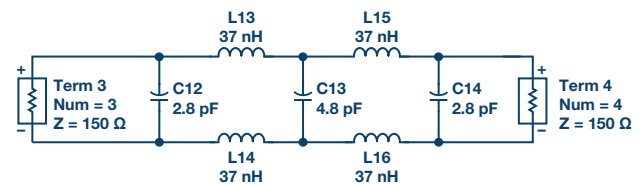

Figure 17. Differential low-pass filter with ideal components.
2. Change the single-ended filter into a differential filter. Keep the source and load impedance the same, shunt all capacitors, and cut all serial inductors in half and put them in the other differential path (see Figure 17).